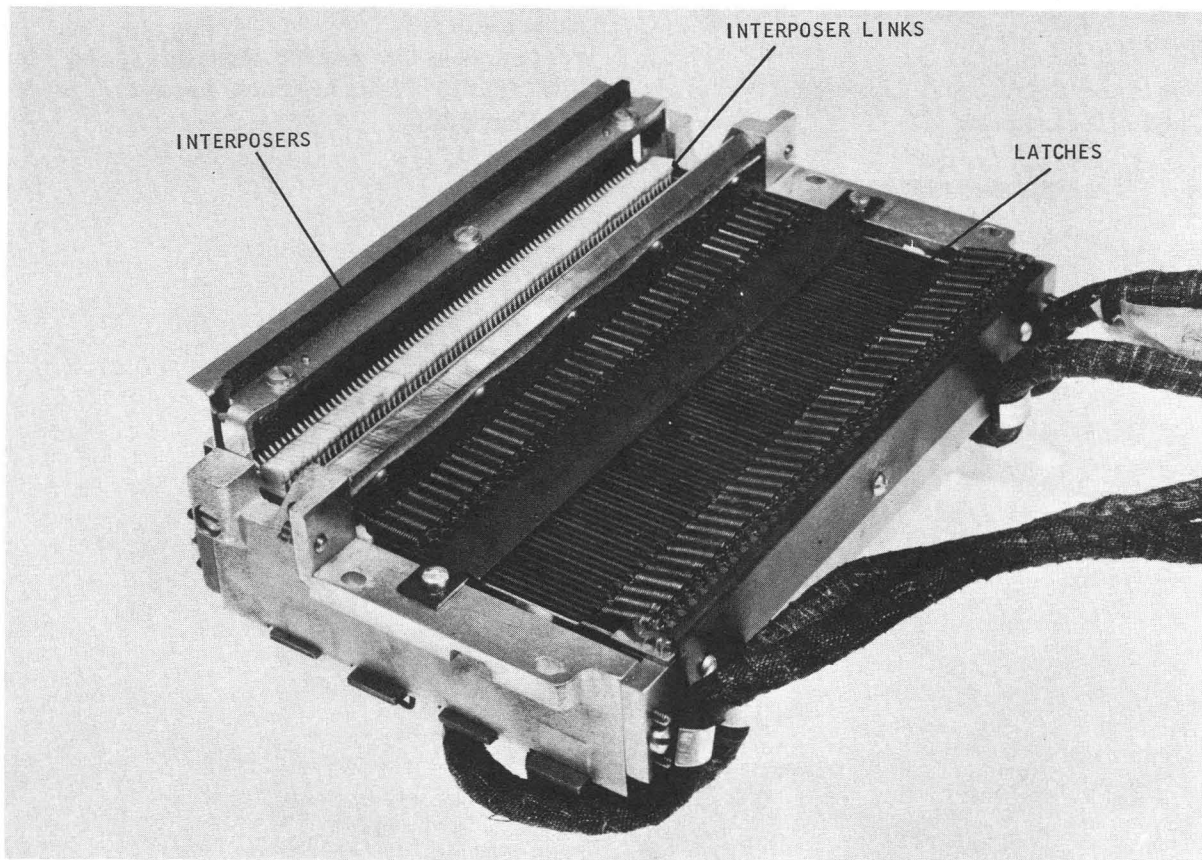

Figure 3-36. Magnet Unit
6. Remove latch from magnet side of unit. It may be necessary to move latches next to the one being removed, in order to obtain sufficient room for removal. See Figure 3-36.
1. Position magnet unit as shown in Figure 3-36.